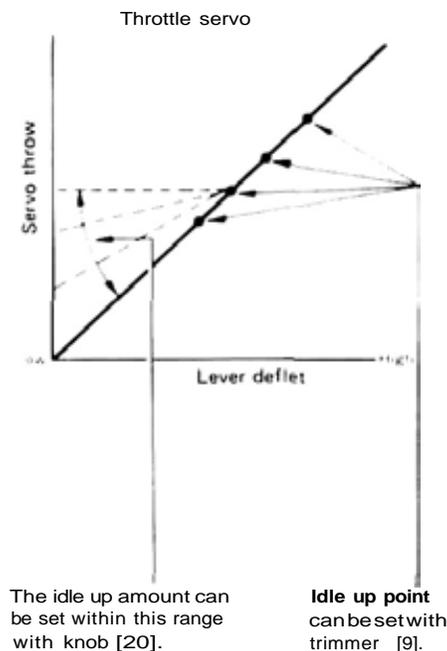

Fig. 61
2. When trimmer [10] is turned clockwise, idle up is applied. (See Fig. 61.)